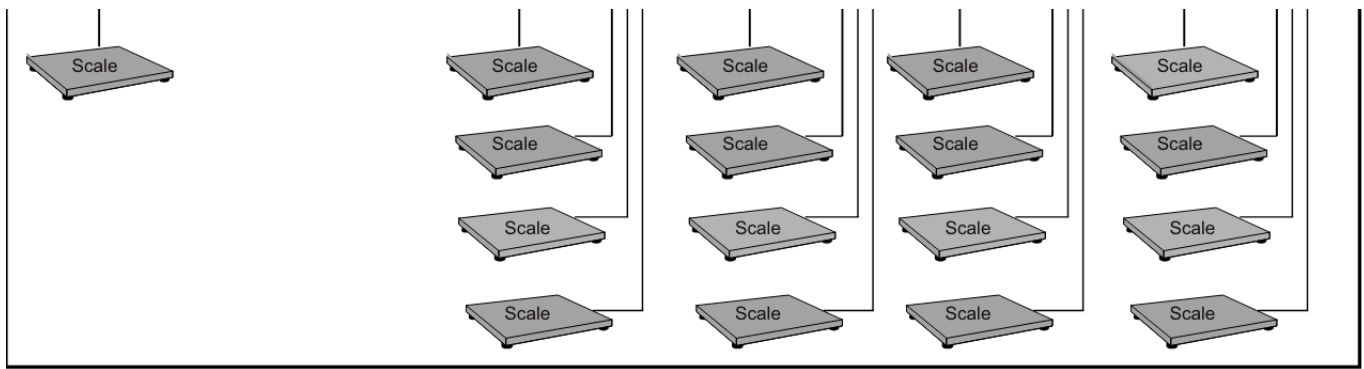

Figure 1-1. Network Overview Diagram
- Figure 1-1 displays an example of three sites with varying configurations.